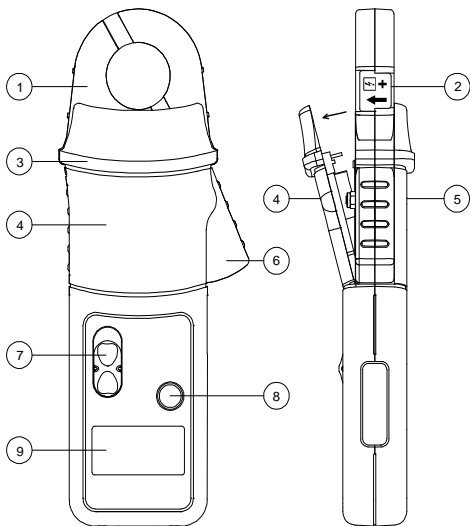

FIG 1
- Do not hold the clamp-on-meter anywhere beyond the tactile barrier see FIG 1, in order to avoid dangerous contact with the conductor.
When the Low Battery symbol is illuminated in the display the minimum battery voltage has been reached. Refer to Fig. 1 and use the following procedure to replace the battery.
Loosen the captive screw which secures the battery cover. Lift the cover through 30° and pull it clear of the body as shown in Fig 1. Replace the battery and re-fit the battery cover and fasten the screw .